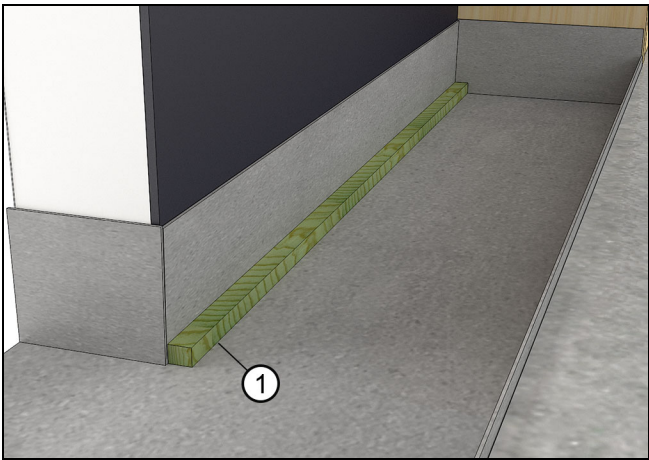

Figure 4
1. HP Sill Slope Offset: The distance from the exterior wall blackout panel to the edge of the sill slope is approximately 1 1/16" (27). As an option, fabricate a filler piece from rigid foam or treated lumber to this dimension. See Figure 4. The height will vary depending on how many tracks your door uses. Refer to the HP Sill Slope Offset table in the Modern Multi-Slide Site Preparation Instructions for heights.